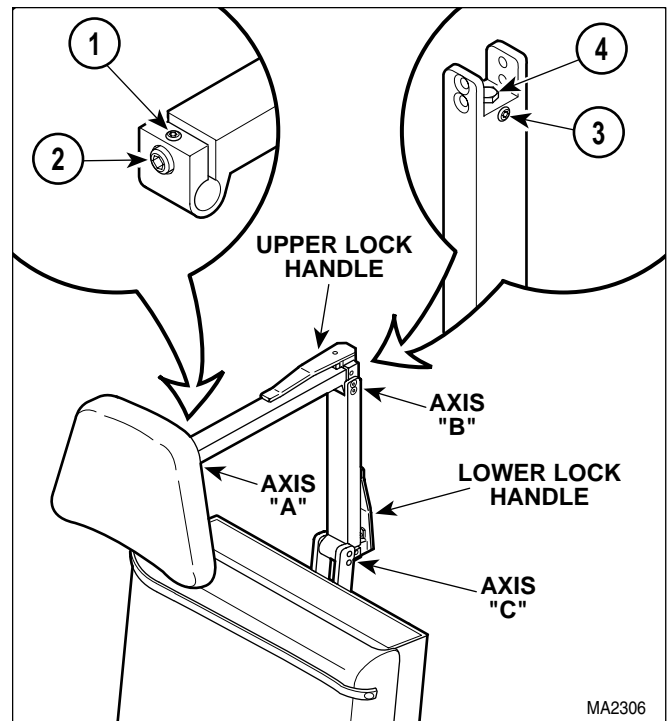

Figure 4-31. Headrest Adjustment
- (1) Unlock upper lock handle (See Figure 4-31).
- (2) Loosen setscrew (1, Figure 4-31).
- (3) Tighten adjusting screw (2) slightly; then lock upper lock handle. Repeat this step until axis A and B have the strongest possible holding power, but operation of upper lock handle is not too difficult.
- (4) Tighten setscrew (1).
- (5) Unlock lower lock handle.
- (6) Loosen setscrew (3).
- (7) Tighten adjusting screw (4) slightly; then lock lower lock handle. Repeat this step until axis C has the strongest possible holding power, but operation of lower lock handle is not too difficult.
- (8) Tighten setscrew (3).